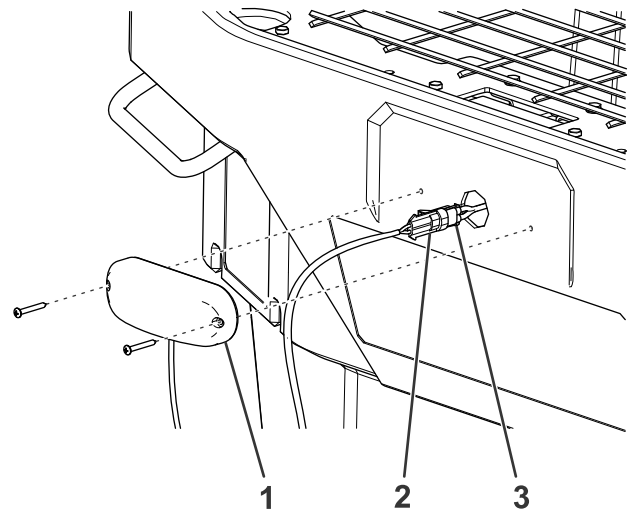
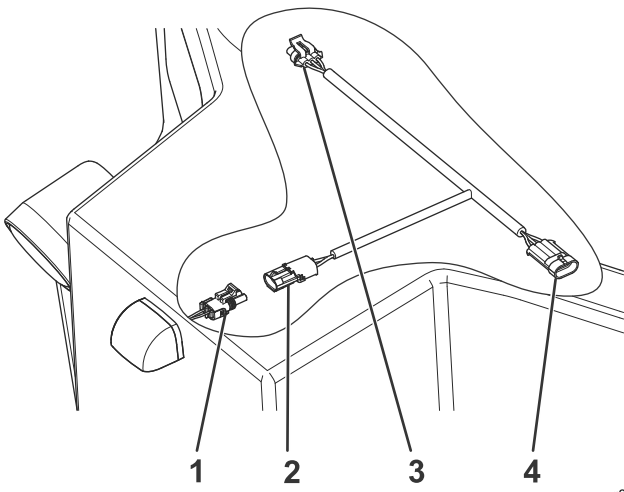

Figure 8
Figure 9
- VBX spreaders only:** Pull the wire harness up through the hopper until you reach the connector for the spreader-side wire harness (Figure 8).
- Disconnect the rear light connector from the spreader-side wire harness (Figure 8).
- Connect the spreader-side wire harness to the spreader-side wire harness connector on the light-kit wire harness (Figure 8 and Figure 9).
7. Disconnect the wire harness from the rear light (Figure 8).
8. Connect the CHMSL connector on the light-kit wire harness to the rear light (Figure 8 and Figure 9).
9. **VBX spreaders only:** Pull the wire harnesses down through the hopper and install the previously removed rear light (Figure 8).